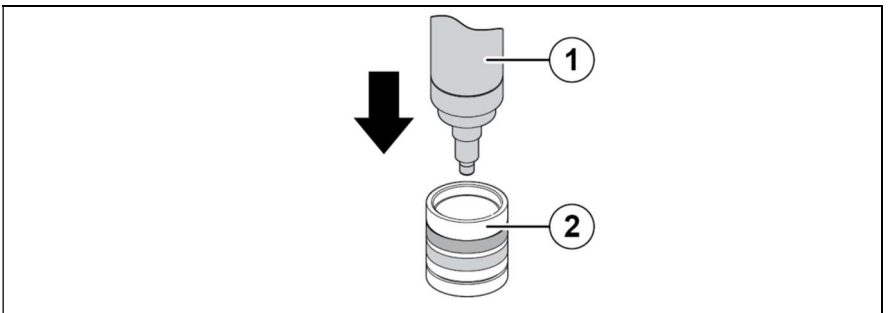

Fig. 5: Placing the sensor body on the sensor cap
- ▶ When screwing on the membrane cap make sure that the valve is not closed off (see Fig. 5, p. 16).